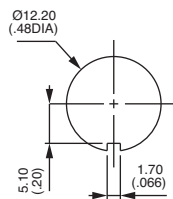

Figure 2
- 2 For SEALED mounting (panel cut-out fig. 2)